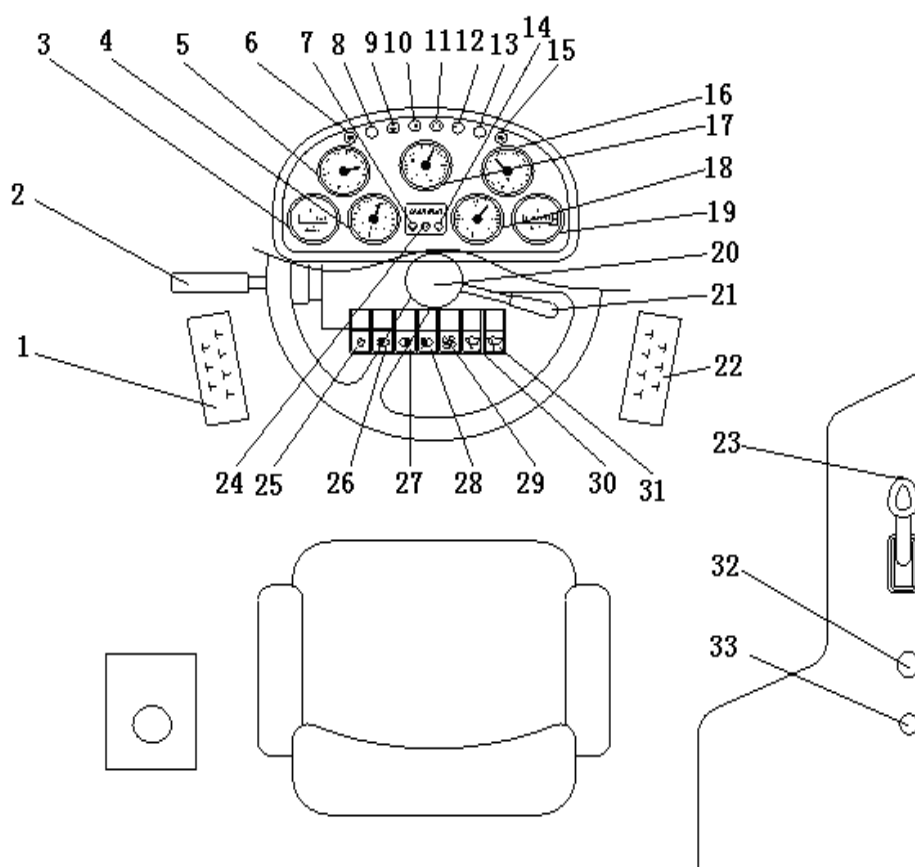

Fig. 3 - 1 Operation equipments and instruments in cab
Before driving, it is necessary to know the location and function of each operating device, meter and indicating light. The arrangement of devices and meters in cab is shown in Fig. 3 - 1. The operator falls into the habit of watching the instrument board always in operation and discovers any abnormal condition on time.
Plug the key into the switch of the electronic door as figure 3 – 2, turn clockwise the key to connection position, then turn clockwise to starting position, connect the starting motor and start up the diesel engine. When weather is cold, turn the starting switch anti-clockwise to pre-heat position, then start after air incoming for preheating.
(1) Gear shift lever: (See Fig. 3 - 3)